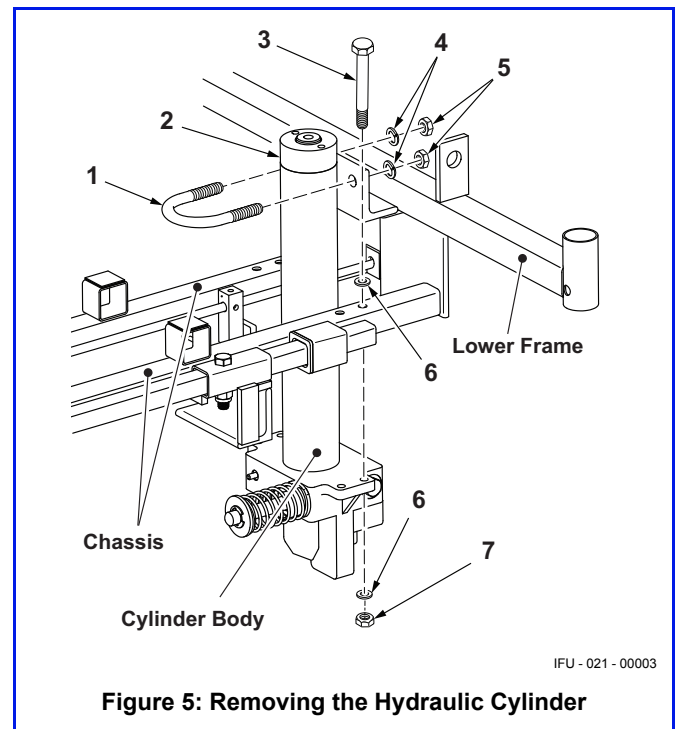

Figure 5: Removing the Hydraulic Cylinder
8. Using a 9/16" open end wrench, remove the two 3/8"-16 hex nuts (p/n: H0029-02), and two 3/8"-16 split lock washers (p/n: H0017-02) from the 3/8"-16 X 2" U-bolt (p/n: H0037-01) (See Figure 5, Items 4, 5) attaching the Hydraulic Cylinder to the lower frame.
9. Using a 7/16" socket and a 7/16" open-end wrench, loosen and remove four 1/4"-20 x 2" bolts (p/n: H0016-28), eight 1/4" flat washers (p/n: HDW001-03) and four 1/4" x 20 nylon insert lock-nuts (p/n: H0004-01) See Figure 5, Items 3, 6, and 7.